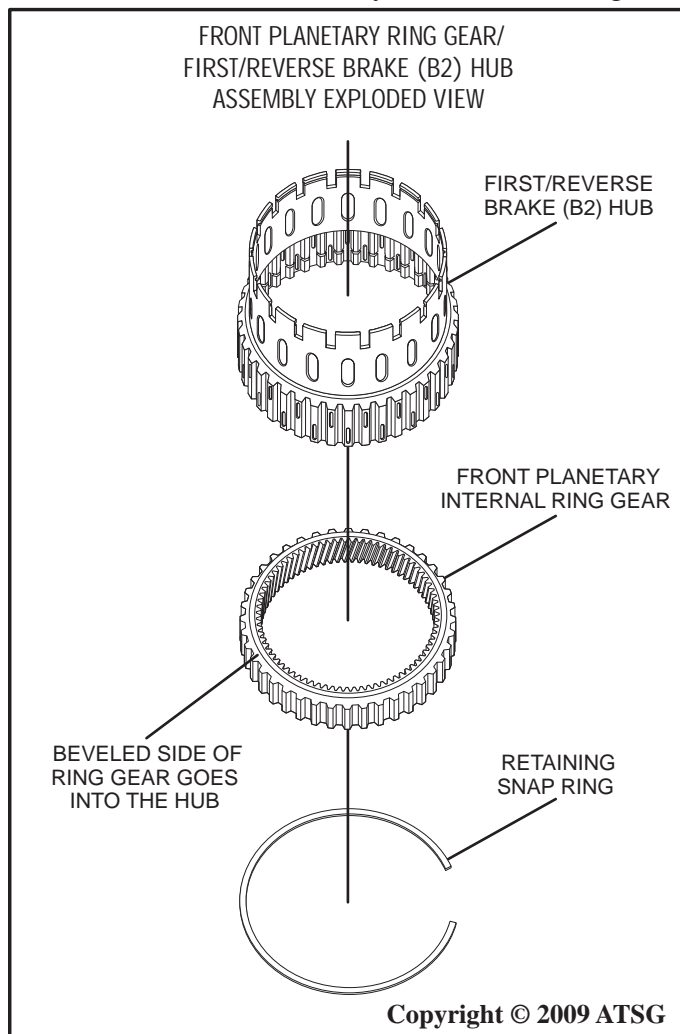

Figure 150
11. If the front planetary ring gear/first/reverse brake (B2) hub has been disassembled, inspect and clean all parts thoroughly with solvent, then dry with compressed air and reassemble using the diagram in Figure 150 as a guide.